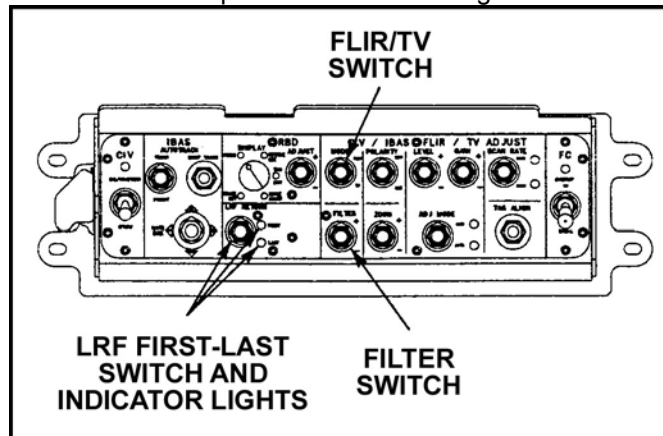

Figure 6. FLIR sight controls.
- (1) Move the FLIR/TV switch up and release to change to the FLIR sight (Figure 6).